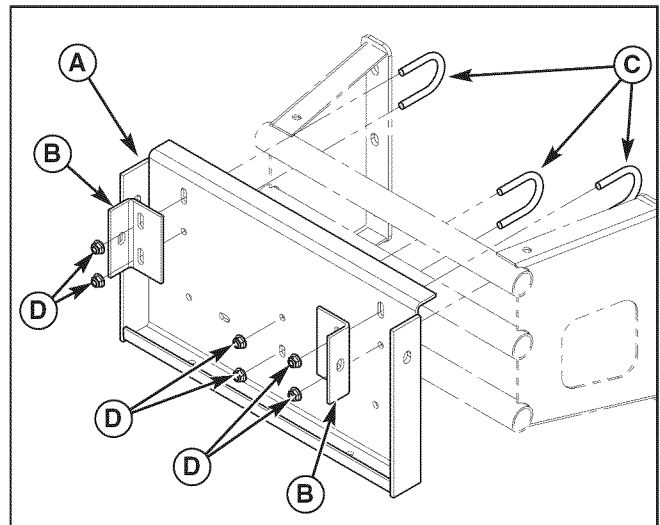

Figure 33. Install Collector Mount Plate
1. Install the collector mount plate (A, Figure 33) and mount tabs (B) on to the bumper. Install two of the 3/8-16 U-bolts (C) over the top bumper tube and through the mount tabs and loosely secure with the 3/8-16 nylock flange nuts (F).